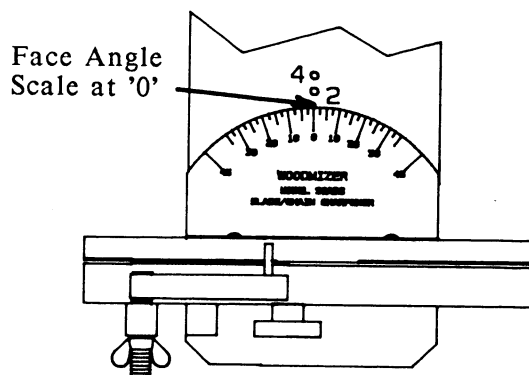

FIGURE 4
1. Set the tooth face angle scale at 0 (See Figure 4). The zero on the scale should also line up with the 0 mark that has been punched into the base plate. As the wheel wears, the blade clamping fixture may be moved away from the operator to keep the blade directly under the center of the grinding wheel. (The other marks are for grinding Micro or Super [Round File] Chisel type saw chain).